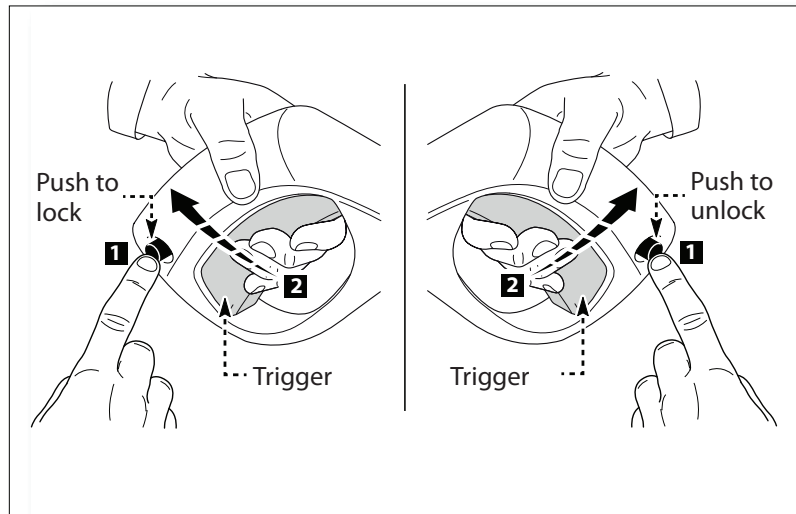

Fig. 20
- Release the safety lock button on the spray gun by pressing the safety lock button from left to right (Fig. 20). While pointing the spray gun in a safe direction, squeeze the trigger on the spray gun until there is a steady stream of water, letting the water and air out of the hose.
- Turn the power switch to the 'ON' (I) position. The unit will turn on for 1 - 2 seconds and shut off, this is a normal function of the (TSS) auto start feature. Squeeze the spray gun trigger to begin pressure washing.